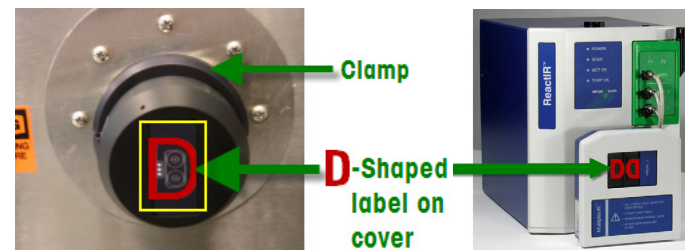

Figure 3: Optical Interface Modules—installed (SINGLE on left, MUX on right)
2. Insert the connector end of the FiberConduit into the Optical Interface Module, taking care to orient the connector according to the D-shaped label on the cover (**Figure 3**). NOTE: The cover on the interface module flips in as you guide the FiberConduit connector into position.